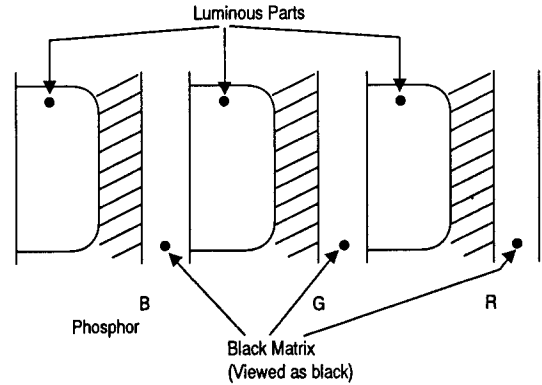

Fig. 7-1-2-6 Enlarged view of screen with microscope
- (13) To improve the mislanding mentioned above, it's acceptable to stick the permanent magnet to CPT funnel. (Fig. 7-1-2-7 and Fig. 7-1-2-8)